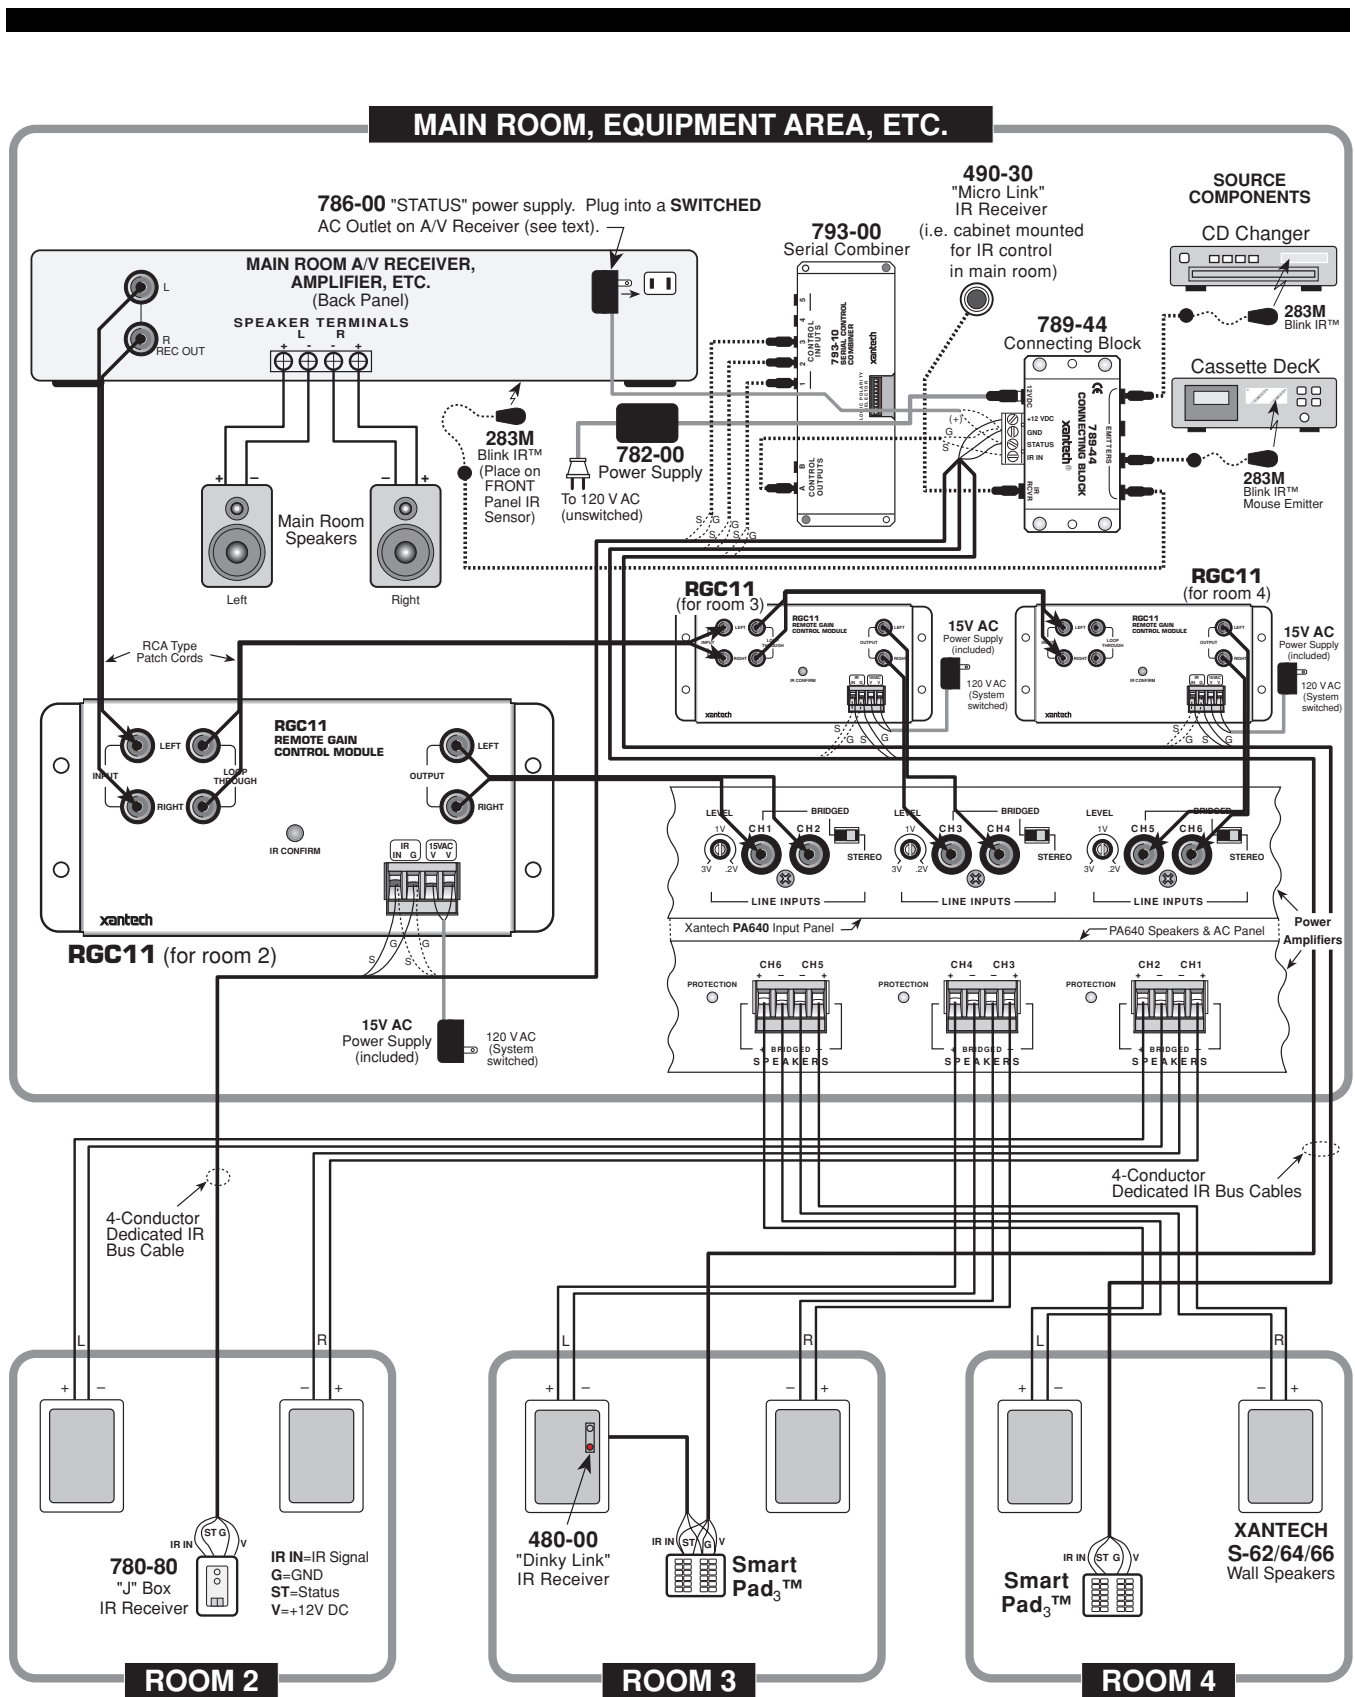

Fig. 4 A Dedicated IR Bus RGC11 System
If you wish to carry remotes that have the same codes from room-to-room, use a Dedicated IR Bus System as shown in **Fig. 4**.
Fig. 4 illustrates an installation where each remote room has a **Dedicated IR Bus** going to the RGC11 that controls it. The IR bus is not connected in common as it is in Fig. 3. This eliminates the need for dedicated remotes, **allowing you to carry the same remote(s) from room-to-room**. It is configured as follows:
3. In order to control the common source components in a Dedicated IR Bus system, it is necessary to use a 793-00 Serial Control Combiner, connected as shown in **Figs. 4 & 5**. The 793 provides diode isolation between the dedicated IR signal lines but allows common operation of the source equipment through the 789-44 Connecting Block, as shown.
4. The input and output ports on the 793 are 3.5mm mono mini jacks. Use matching mini plug cables with stripped ends when connecting. Polarity must be observed as shown in **Fig. 4 & 5**.